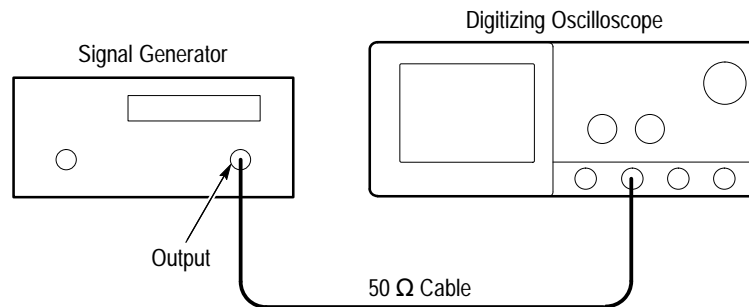

Figure 1-31: 60 Hz Rejection Test Hookup
- Connect the output of the signal generator to the CH2 input through a 50 Ω cable. See Figure 1-31.